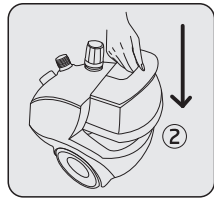

FIGURE 11
3. To prolong the lifetime of your garment steam iron, we recommend to use distilled or demineralized water. Place the water tank back into the unit and make sure it sits properly and securely in the cavity (see figure 11).